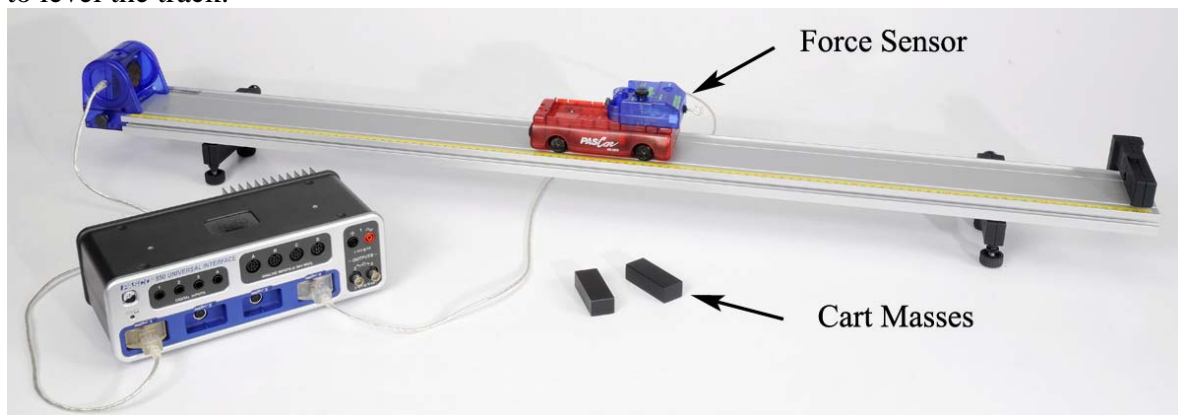

Figure 1: The cart is accelerated by pulling directly on the Force Sensor.
1. Set up the track as shown in Figure 1, including feet and endstop. Use the adjustable feet to level the track.